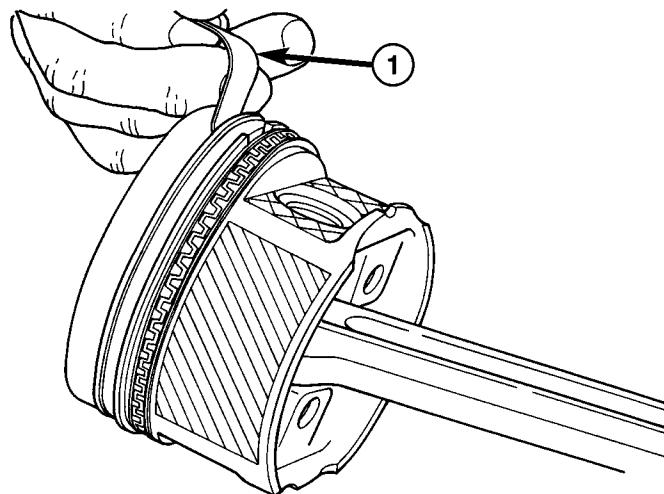

Fig. 63 Piston Ring Side Clearance
(2) Check piston ring to groove side clearance (Fig. 63). For clearance specification (Refer to 9 - ENGINE - SPECIFICATIONS)